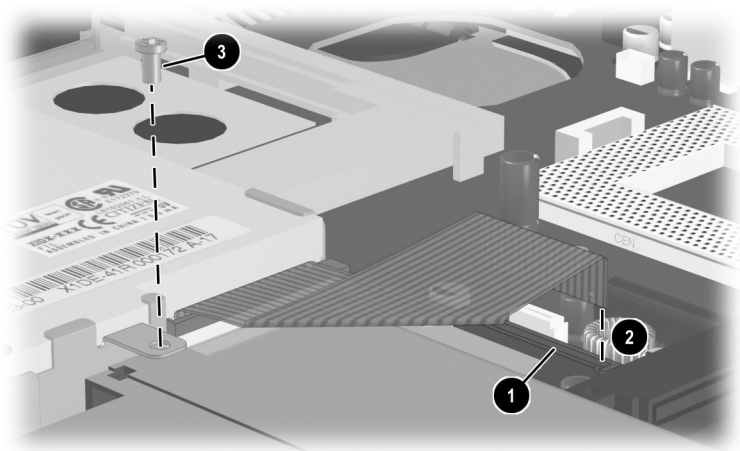

Figure 5-36. Disconnecting the Diskette Drive Cable and Removing the Diskette Drive Screws
2. Release the ZIF connector ❶ to which the diskette drive cable is connected and disconnect the cable ❷ from the system board (Figure 5-36).
3. Remove the silver TM2.0 × 5.0 screw ❸ that secures the diskette drive to the base enclosure.